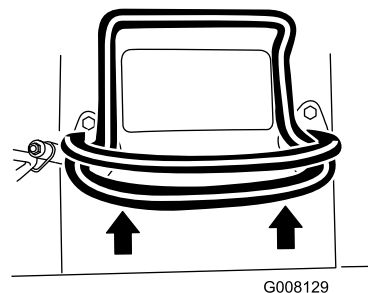

Figure 6
- To move forward, move the traction control forward (Figure 6).